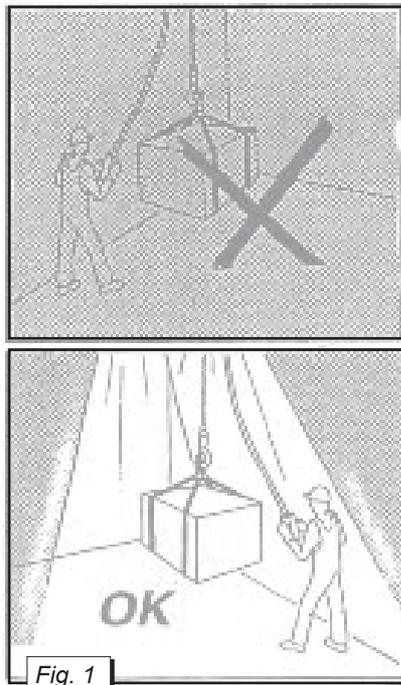
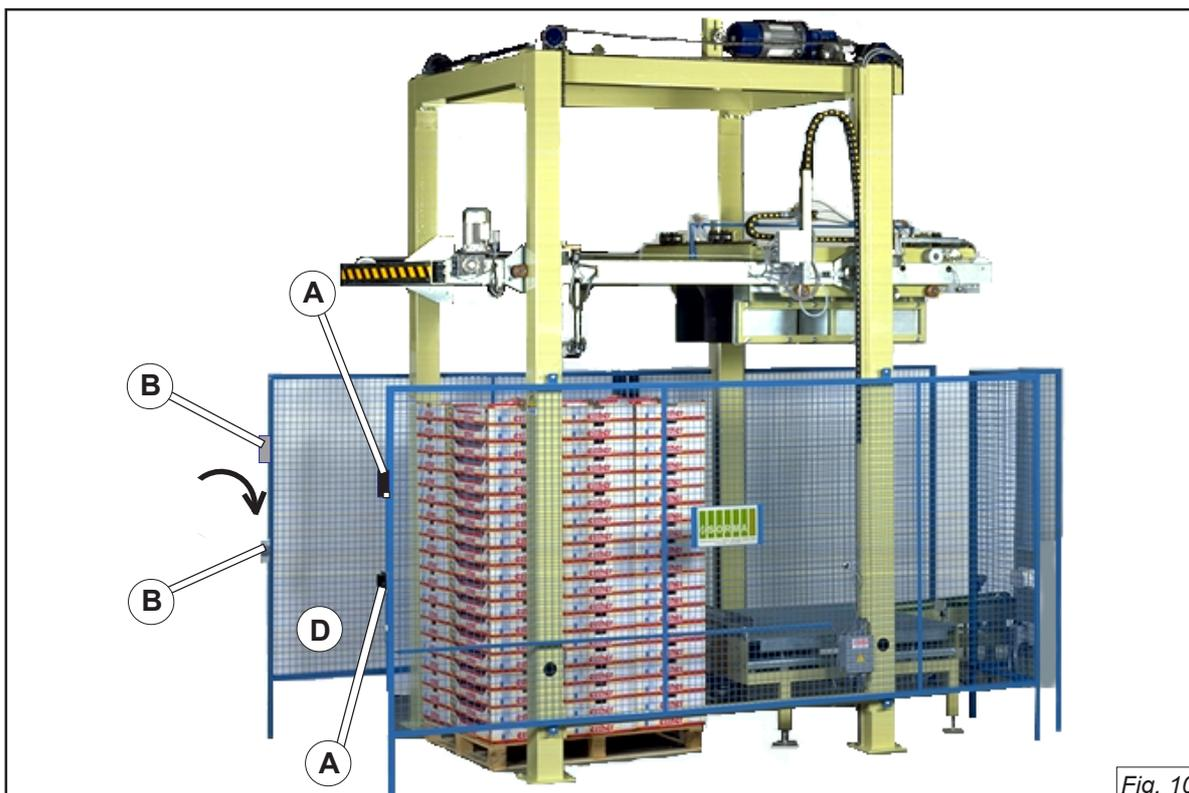

Fig. 1
Fig. 10
- the area involved must be well lit (see fig. 1),
After the installation and positioning of the palletiser FBG-108, fit the relative safety protections and secure them properly to the ground with the relative expansion plugs supplied. Place the photocells [A] where **INPUT [D]** is located. Fit the removable reflectors [B] and secure them to the posts of the safety protections, making certain to align reflectors to the relative photocells (see fig. 10).
Every authorized and duly trained technician who wants to enter the working area of the machine through the **INPUT [D]** (see fig. 10) **must** follow this procedure, disable the automatic run of the palletiser, by turning clockwise the selector [B] on the push button panel (see fig.5 chap.6); the palletiser will stop and the green light [C] on the push button panel will come on (see fig.5 chap.6); by turning one of two brackets holding the reflector [B] (see fig. 10). In this way the palletiser is locked and the red light [6] on the control panel will flash (see fig.1 chap.6); all the controls are locked, and it will be possible to enter the working area in totally safe conditions. Insert the safety pin and remove it only before leaving the working area.
Once left the working area, to turn on the machine again, proceed as follows: reposition the reflector [B] (see fig.10), turn anticlockwise the selector [B] on the push button panel (see fig.5 chap.6), if necessary release the red mushroom-shaped push button [11] and press the AUTOMATIC RUNNING MODE green light button [9] (see fig. 1 chap. 6).